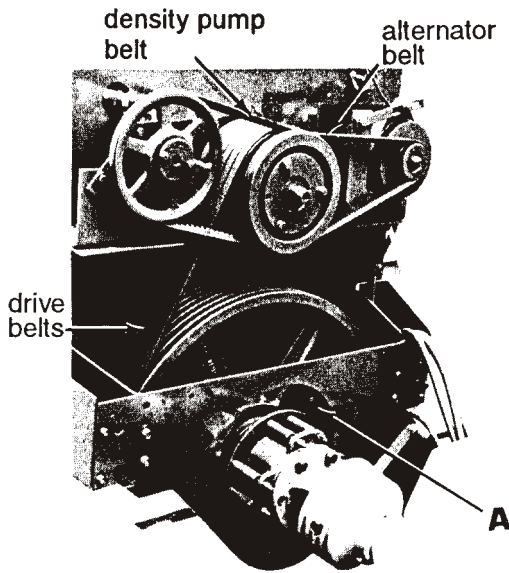

Figure 5-17 Mechanical Drive Unit
1. Adjust to obtain a 3/8" deflection when a 15 to 19 lb. force is applied at the center of the span length (see Figure 5-17). Check each of the six drive belts separately.
Adjust to obtain a 3/16" deflection when a 2 to 3 lb. force is applied at the center of the span length (see Figure 5-17).
Adjust to obtain a 3/16" deflection when a 3 to 4 lb. force is applied at the center of the span length (see Figure 5-17).